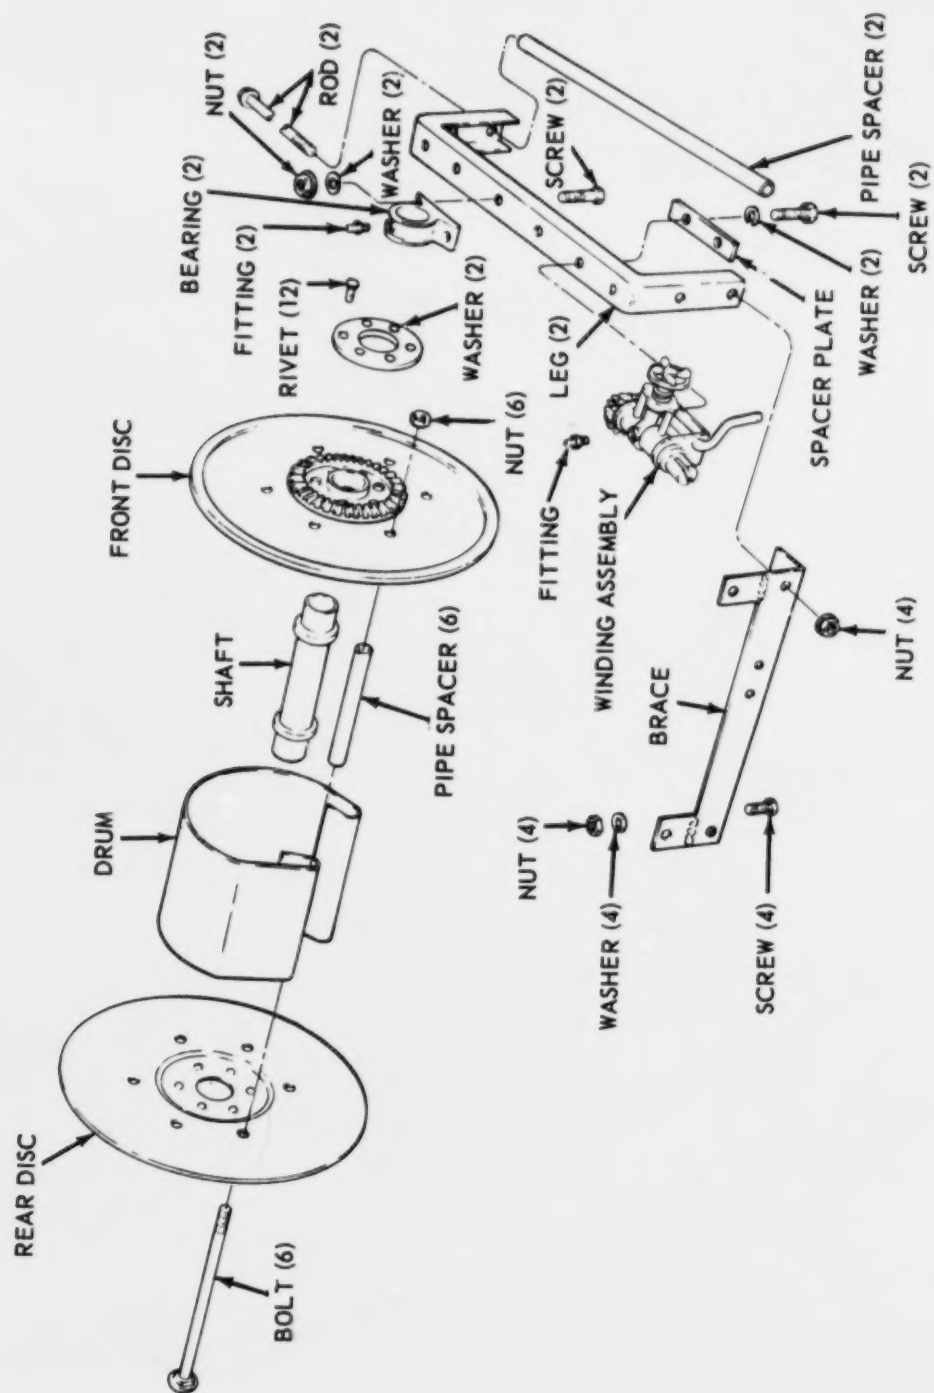

Figure 68. Feeder jumper reel and bracket, exploded view.
- (2) Remove the control mechanism from the control panel box as instructed on figure 68.
- (2) Install the control mechanism on the control panel box in reverse of the instructions on figure 68.